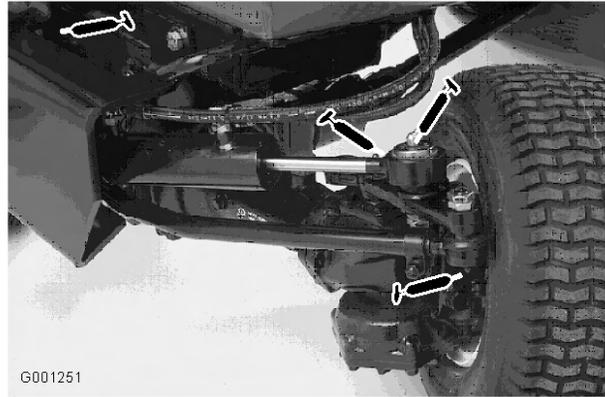

Figure 44
- Tie rod ends (2) (Figure 44)
- Cylinder rod ends (2) (Figure 44)
- Steering pivots (2) (Figure 44)
- Axle pivot pin (Figure 44)